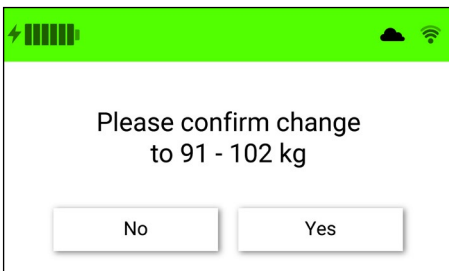

Figure 34. Weight change confirmation screen
1. If user selects to change patient's weight, by more than one weight range, a confirmation of weight selection will be required. (Fig. 34)